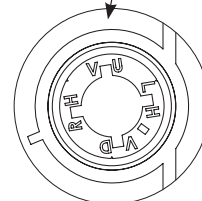

Figure 7
3. Then align the mark on the drive cam with the one on the back cover (Figure 7). (Mechanical tolerance +/- the width of the of the case alignment mark.)